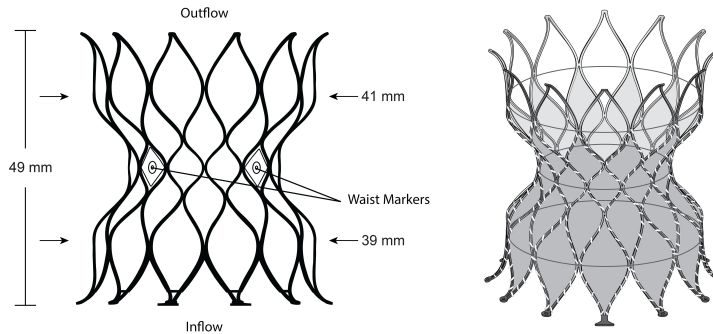

Figure 1: Edwards Alterra Adaptive Prestant
- **Edwards Alterra Adaptive Prestant (Figure 1)**